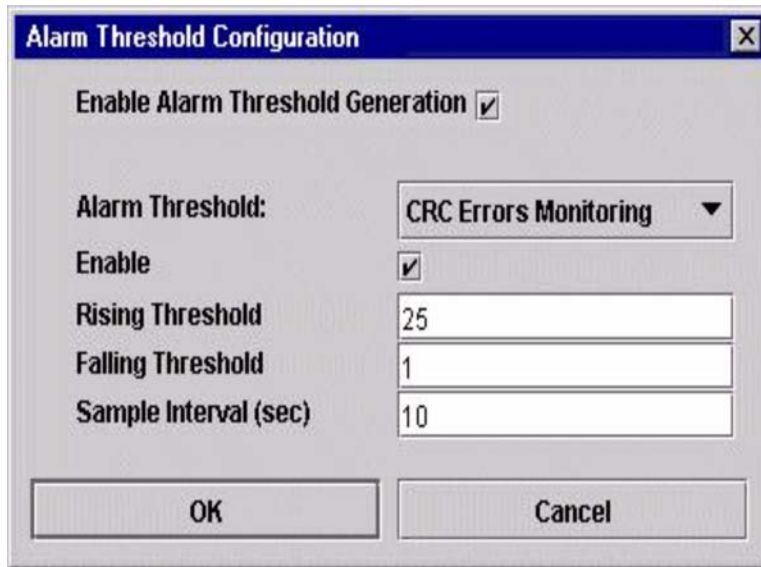

Figure 14. Alarm Threshold Configuration window
2. The Alarm Threshold Configuration window shown in Figure 14 on page 100 prompts you to select an event, set thresholds, set a sampling interval, and enable or disable the alarm.